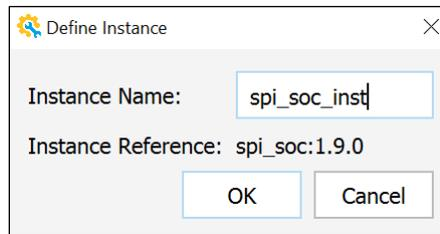

Figure 6.5. Define Instance
7. After generating the IP, the **Define Instance** window opens as shown in Figure 6.5. Modify the instance name if needed, then click **OK**.